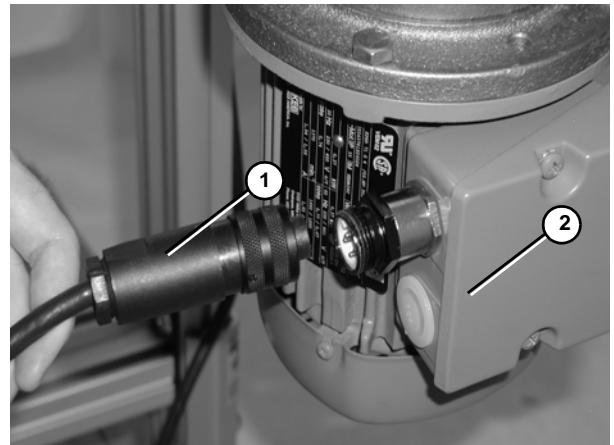

Figure 8
1. Connect motor cord (Figure 8, item 1) to motor (Figure 8, item 2).